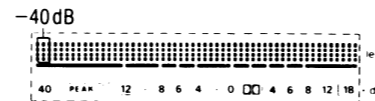

Fig. 18
6. At this time, check that -40dB indicator is dimmed (intermediate brightness between full brightness and light-out: See fig. 18).